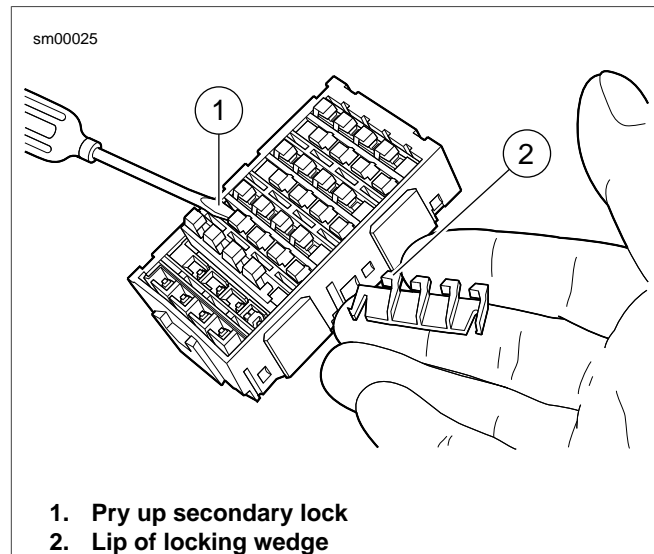

Figure A-39. Fuse Block: Remove Secondary Locks
1. See Figure A-39. To remove secondary locks, insert end of small flat blade screwdriver (1) under lip of locking wedge (2) and gently pry up secondary lock.